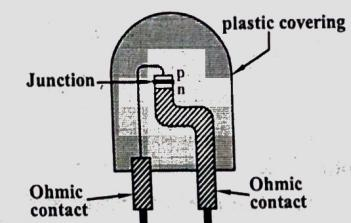

Fig. 1.71
- (ii) By covering the p-n junction by a plastic medium of higher refractive index in the shape of hemispherical dome (fig.1.71), total internal reflection can be reduced. This LED is used for commercial purpose. Hence usually dome shape hemispherical LED is prepared than planer LED's.